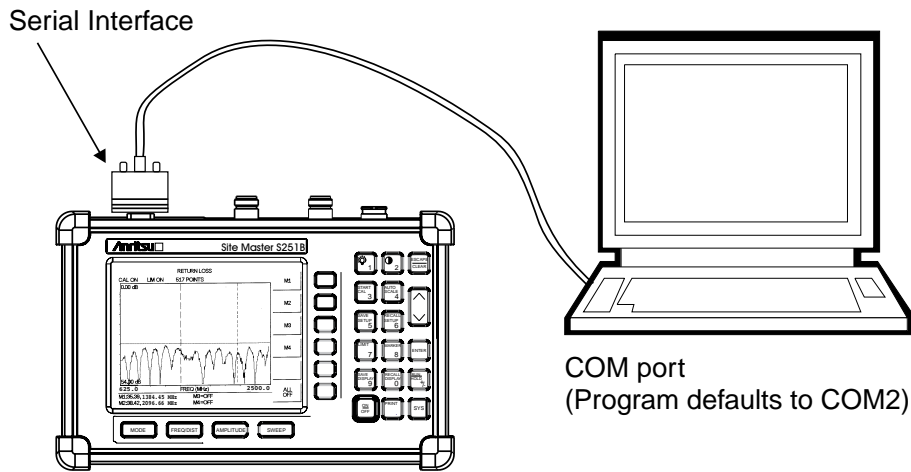

Figure 5-2. Serial Cable Connection
**Step 1.** Connect the supplied cable as shown in Figure 5-2.
- Step 1.** Connect the supplied cable as shown in Figure 5-2.